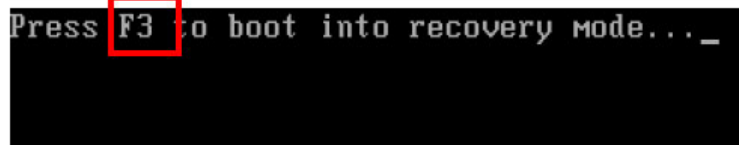

Figure C-10: Press F3 to Boot into Recovery Mode
Step 1: Turn on the system. When the following screen displays (**Figure C-10**), press the <**F3**> key to access the recovery tool. The message will display for 10 seconds, please press F3 before the system boots into the operating system.